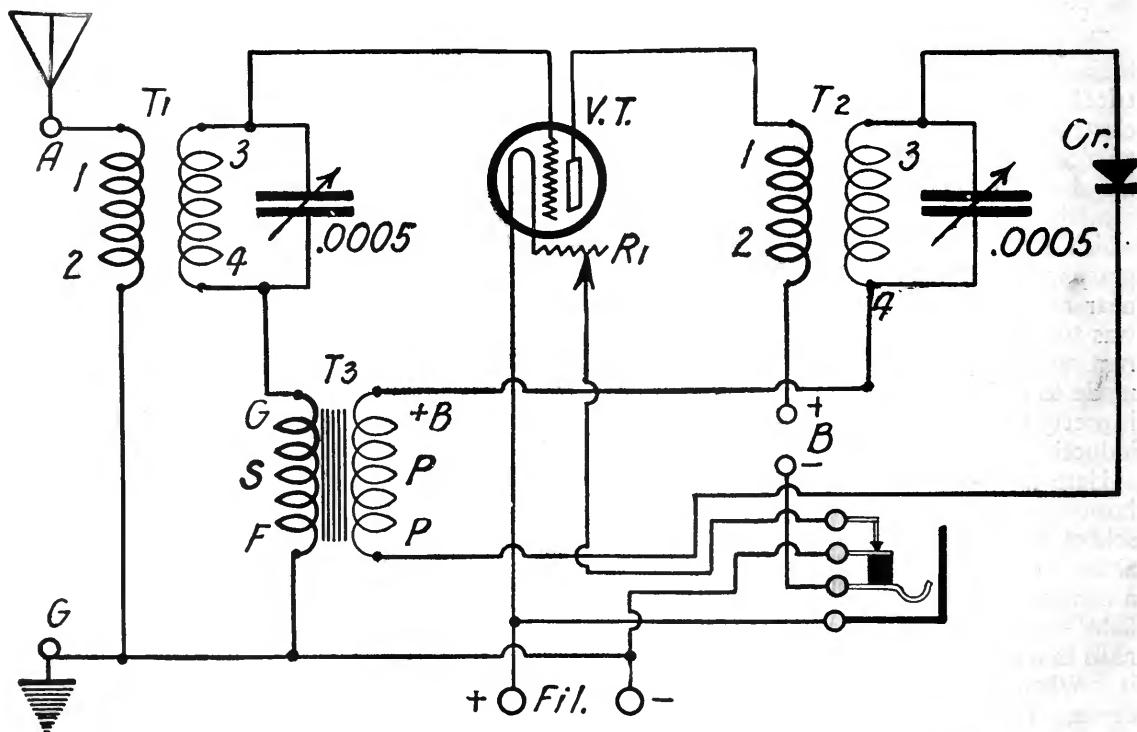
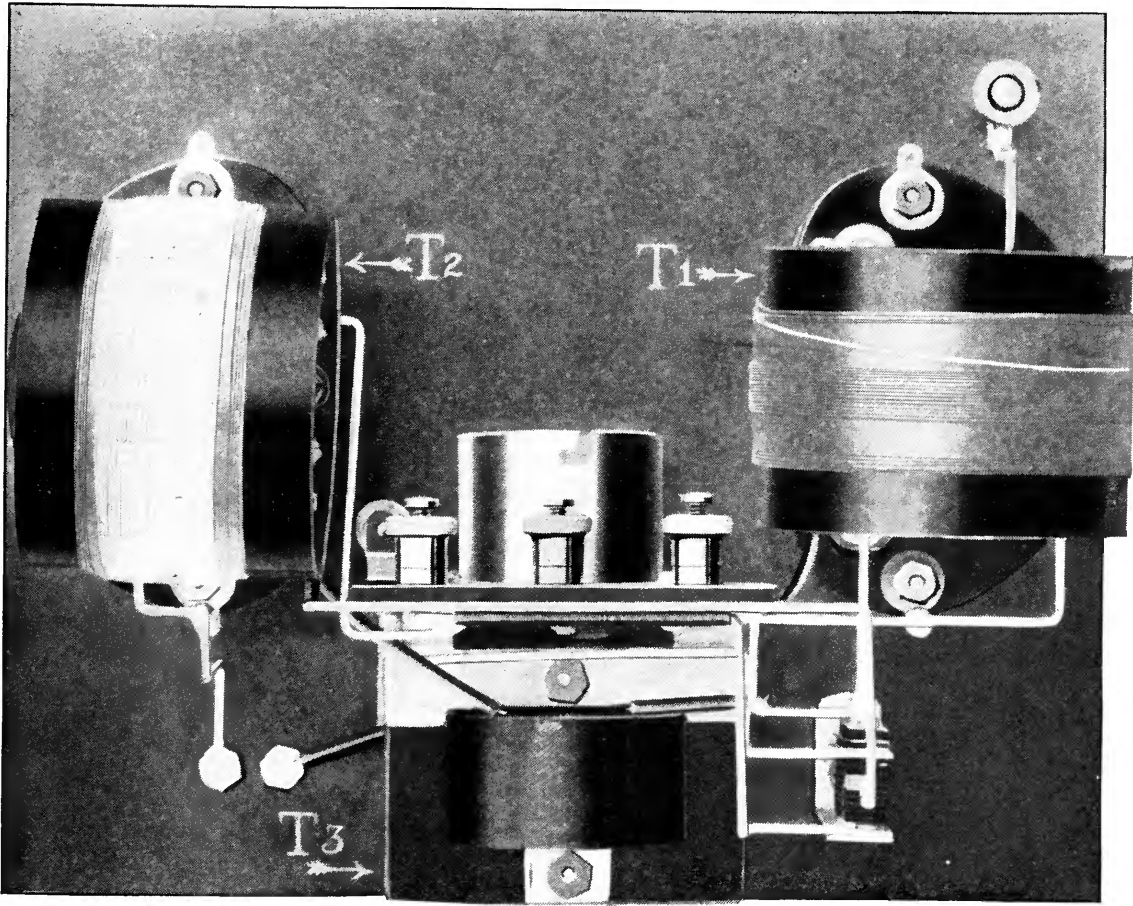

FIG. 1
FIG. 2
**T**HE circuit in Fig. 1 is the diagram of what is becoming an exceedingly popular receiver, the one-tube reflex. The photograph in Fig. 2
The inductances shown diagrammatically in Fig. 1